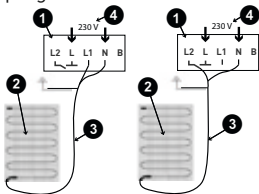

Fig. 4: Towel rail
- (1) Make the connection according to the instructions on the back of the thermostat (see Fig. 4 & 5). The protective conductor for the power supply and for the heating cable is connected to a terminal in the box.
- (2) Insert the base into the switch box and fasten with 2-4 socket screws.
- (3) Connect the touch panel to the socket (plug connection). Then press the touch panel onto the base until a "click" is heard.